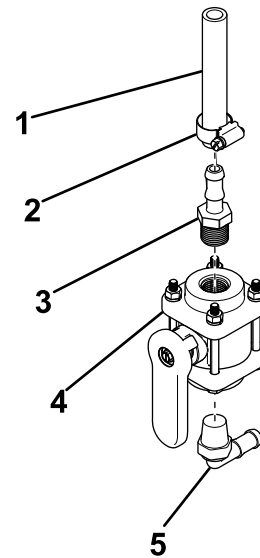

Figure 31
3. Install a 90° hose fitting onto the bottom of the ball valve (Figure 31).
4. Install a straight hose fitting onto the top of the ball valve (Figure 31).
5. Secure the 9.5 cm (4-3/4 inch) hose to the straight hose fitting with a hose clamp (Figure 31).